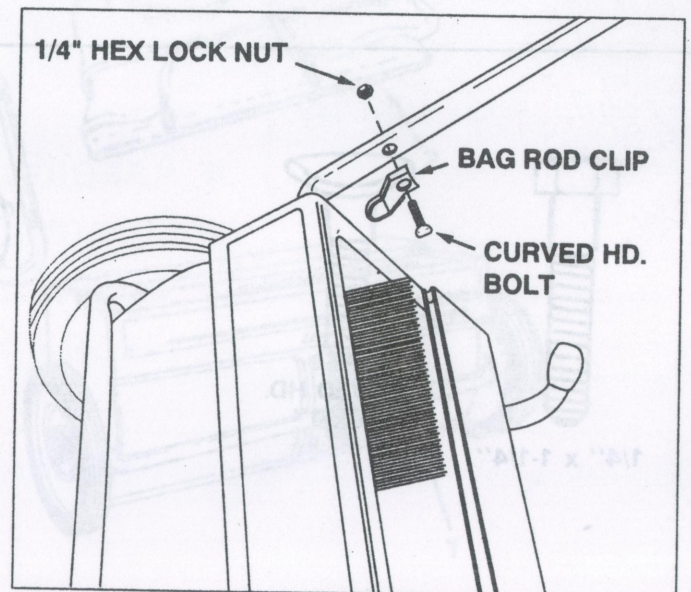

FIGURE 4
4. Assemble a bag rod clip to the inside of each lower handle tube using a curved head bolt secured down against the clip using a 1/4" lock nut. The open end of the clips should face towards the sweeper housing. See figure 4.